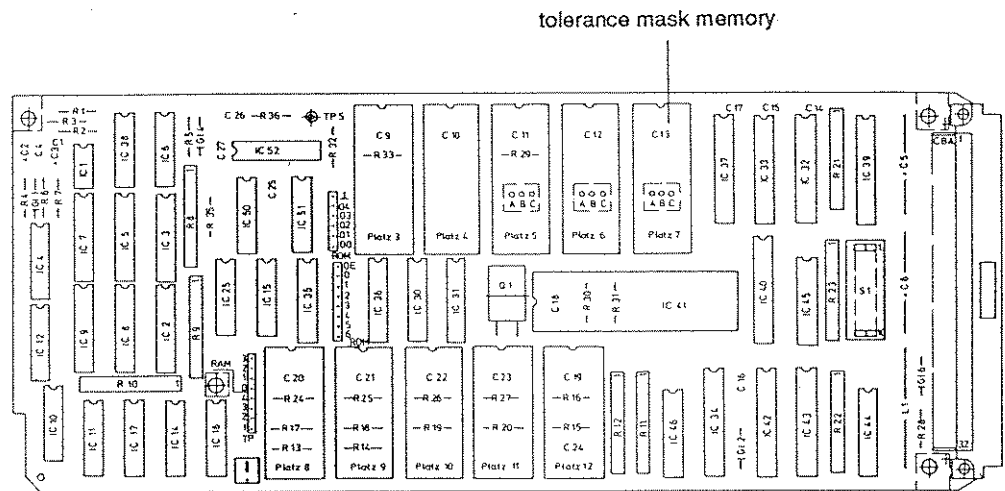

Figure D-4 CPU 2A/2
7. Fig. D-4 shows the EPROM slot.